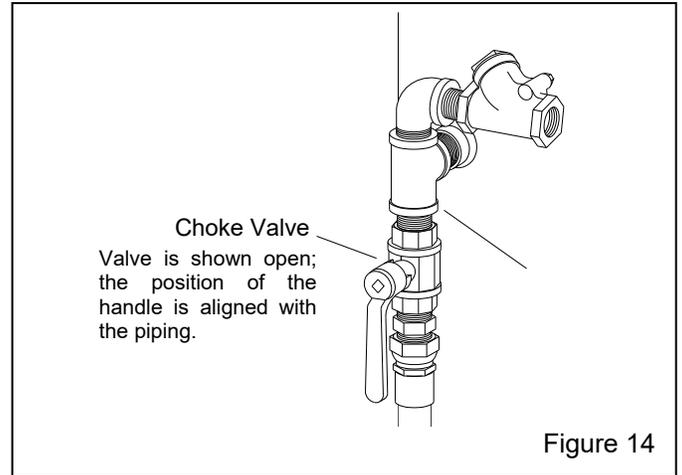

Figure 14
### **4.6 Operation and Function of the Choke Valve Figure 14**
**4.6.1** Always fully open the choke valve while blasting; open is when the handle is vertical and aligned with the piping, as shown in Figure 14.